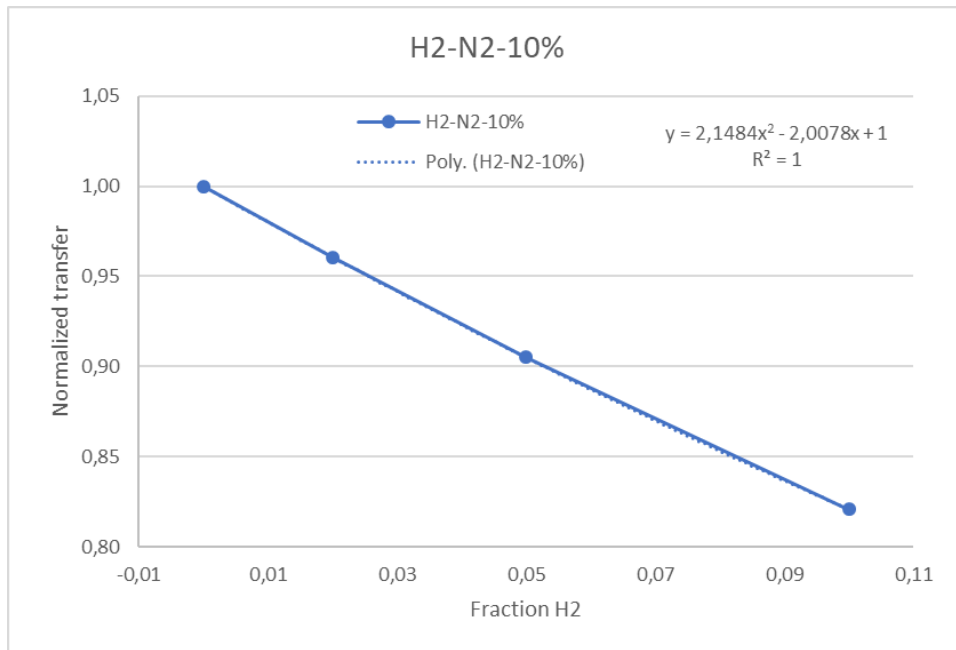

Figure 1: A plot of the calibration data between 0% and 10% H₂, with a 2nd order polynomial trendline to be used to get additional data points.
Step 2: Place the data in an EXCEL sheet (or use another means of calculations), and make a graph of normalized transfer versus fraction H₂, see Fig. 1.
Step 3: Make a 2nd (or 3rd) order polynomial trendline in EXCEL and also display the trendline equation and R² value (should be close to 1), see Fig. 1.